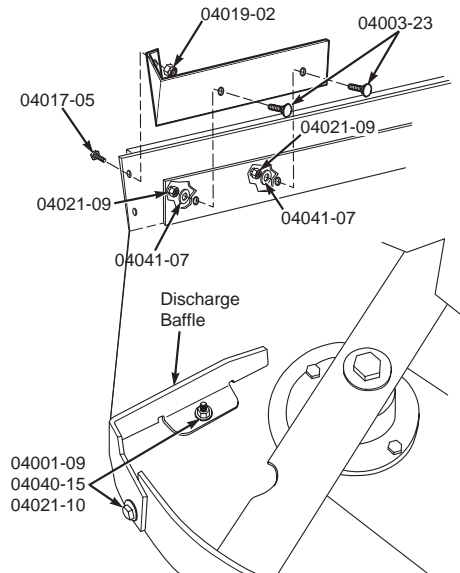

FIGURE 4-2
3. When installing this grass catcher on a machine with a serial number below 8619999, you will need to remove the discharge baffle from the bottom of the cutter deck. See Figure 4-2. Replace the discharge baffle with the new baffle provided with this grass catcher. Secure using the following hardware:
When installing this grass catcher on an Advantage deck, install the front baffle to the cutter deck. See Figure 4-2. Secure using the following hardware: